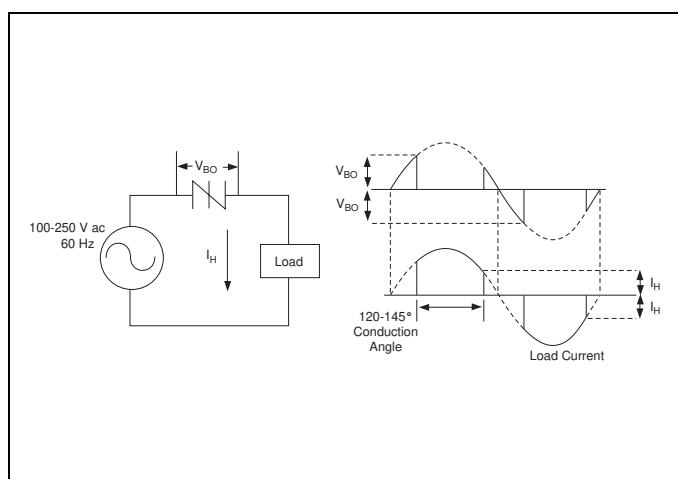

Figure E9.14 Basic Sidac Circuit
(7) See Figure E9.14 for clarification of sidac operation.
(8) For best sidac operation, the load impedance should be near or less than switching resistance.
(9) See package outlines for lead form configurations. When ordering special lead forming, add type number as suffix to part number.
(10) Do not use electrically connected mounting tab or center lead.
[Refer to Figure E9.14 for Basic Sidac Circuit]